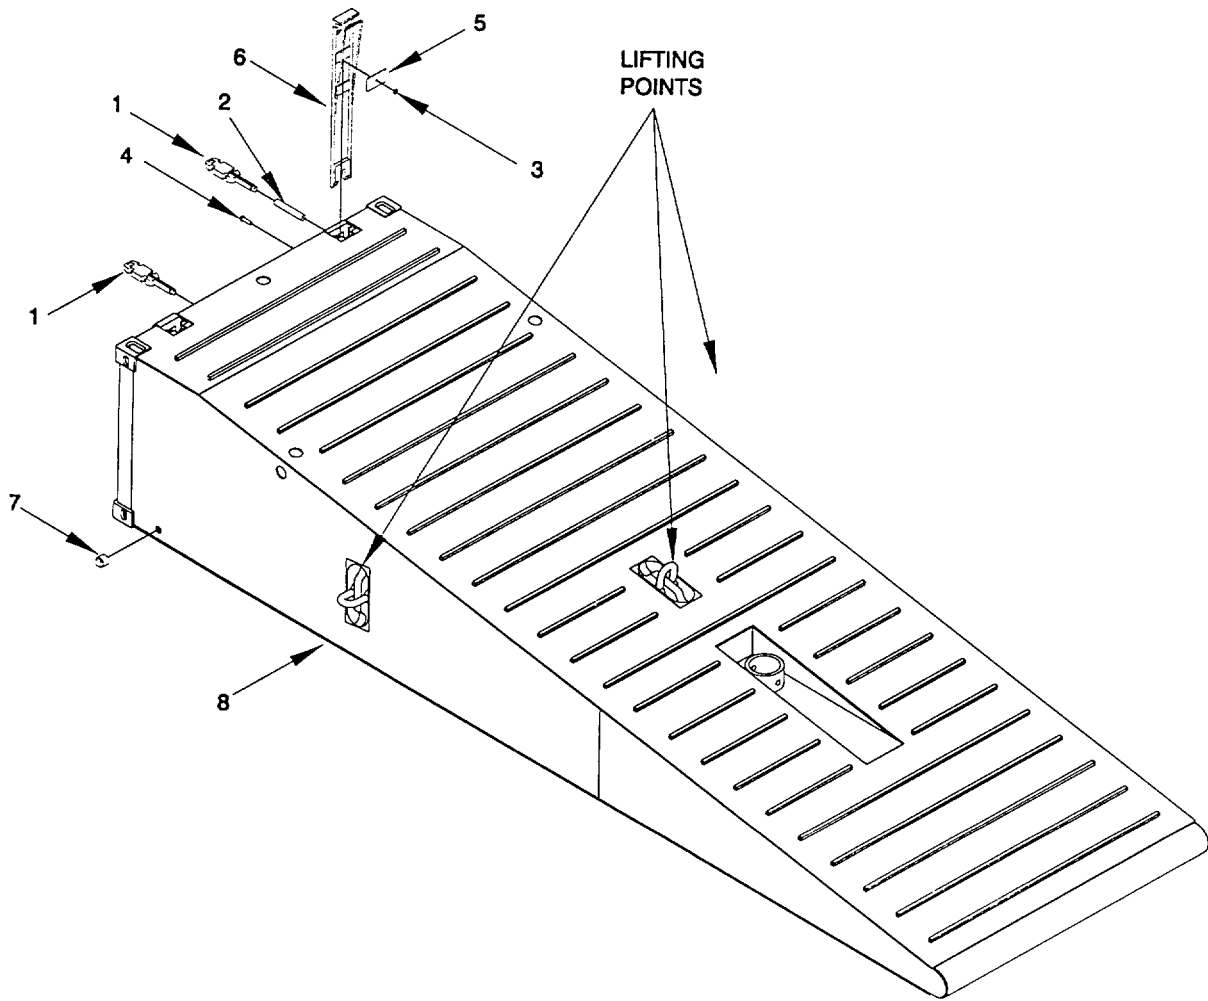

Figure 2-185. P25B Beach End Module Assembly, Service/Repair.
- a. Service. (figure 2-185)
- (1) Lubricate end rake hatches and hinges.
- (2) Check and lubricate connector assemblies and flexor.
- (3) Perform pressure test. Refer to paragraph 2-94.
- (4) Wire brush and spot paint any exposed or rusting surfaces.
- (1) Perform pneumatic pressure test in accordance with paragraph 2-94.
- c. Repair. (figure 2-185)